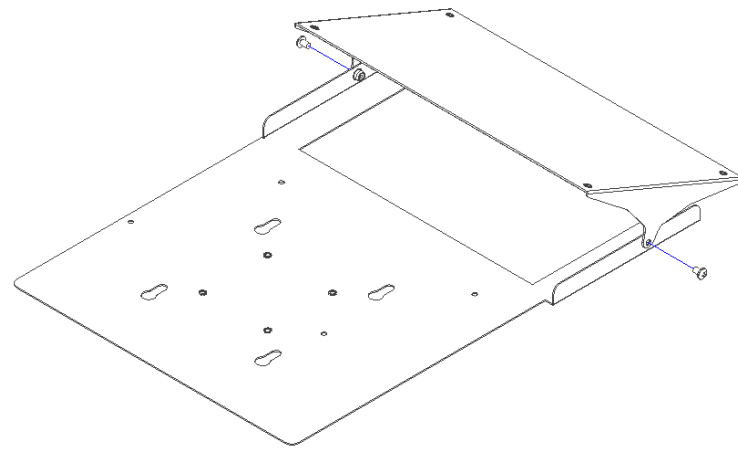

Figure 1 - Antenna Bracket Angle Articulation
Step 2 – Fasten the articulating Antenna Bracket to the Mounting Plate using two of the included #8-32 x 3/8 screws. Tighten the screws once the desired angle is achieved (Figure 1).